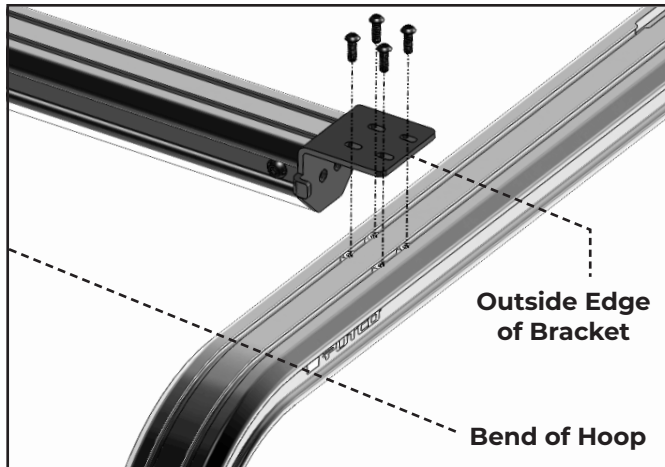
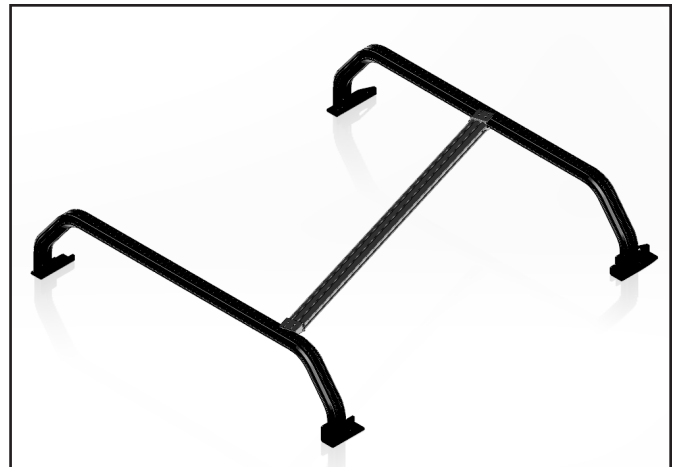

Figure 9: Diagram showing top tube installation
Figure 10: Diagram showing one side inserted and the other side inserted diagonally.
**13** Locate the tubes that will sit at the top of the rack. Position the bracket so that the outside edge of the bracket sits at the start of the bent edge of the hoop as shown in Figure 9. The easiest way to get the tubes into place is to get one side in and then insert the other side diagonally so that the tabs on the bracket fit into the channel of the hoop as shown in Figure 10. Slide the square nuts under the mounting holes in the bracket, and thread in the 1/4"-20 x 1/2" bolts. Repeat the process for the other tube.